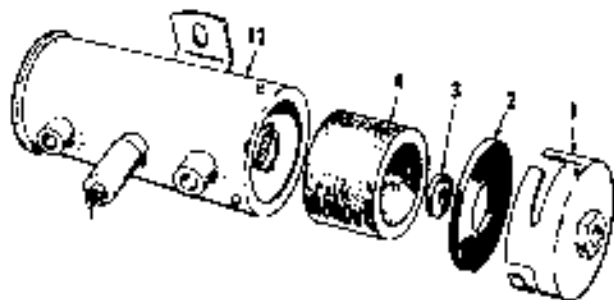

FIGURE 7-6. REMOVAL OF BOTTOM COVER, GASKET, MAGNET AND FILTER
1. With 5/8-inch wrench, release bottom cover (1) from bayonet fittings. Twist cover by hand to remove from pump body.
2. Remove filter (4), magnet (3) and cover gasket (2), Figure 7-6. Wash filter in cleaning solvent and blow out dirt and cleaning solvent with air pressure. Check cover gasket and replace if deteriorated. Clean cover
3. Place cover gasket (2) and magnet (3) in bottom cover (1) and assemble filter (4) and cover assembly. Twist cover by hand to hold in position on pump housing. With 5/8-inch wrench, securely tighten bottom cover, Figure 7-6.